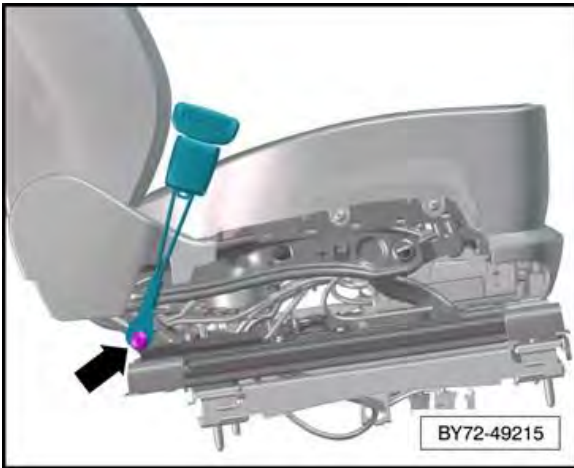

Figure 20
- Remove the fixing—arrow- (40Nm) and discard, fixing is single use, lower the seat belt buckle (see Figure 20)